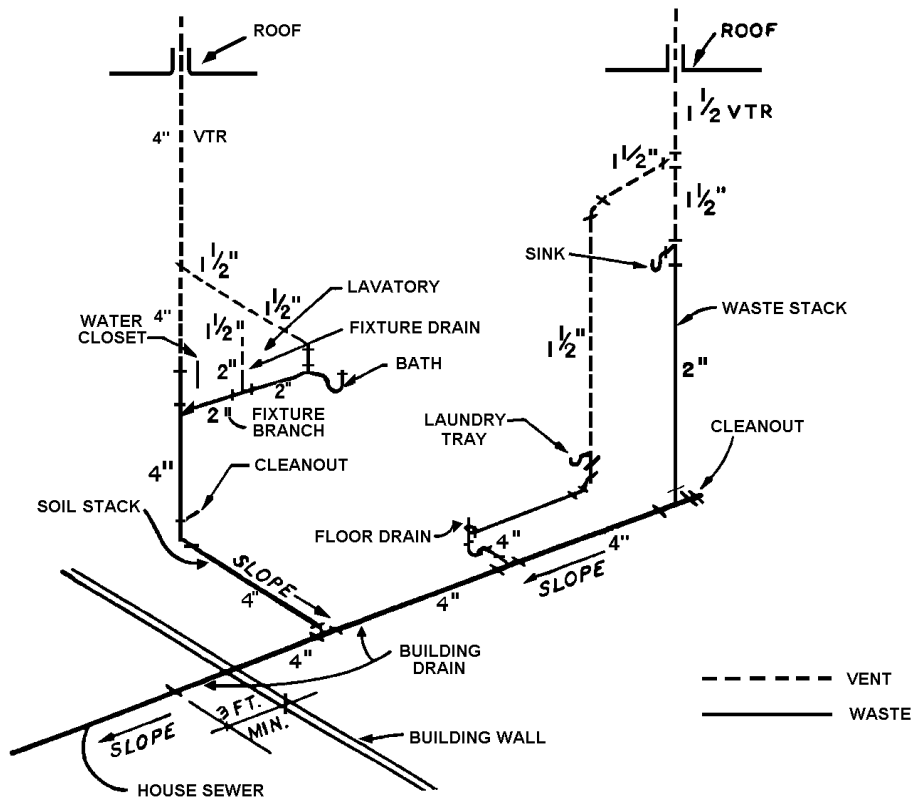

Figure 2
- \* j. Describe the layout/design of an isometric plumbing plan shown in figure 2.